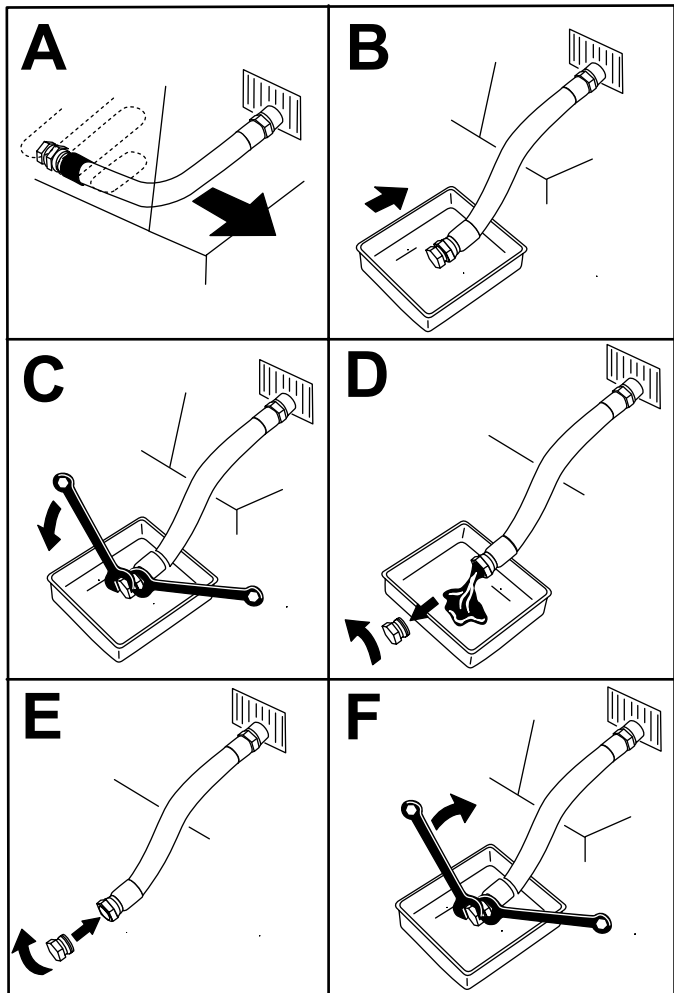

Figure 35
3. Drain the oil from the engine (Figure 35).